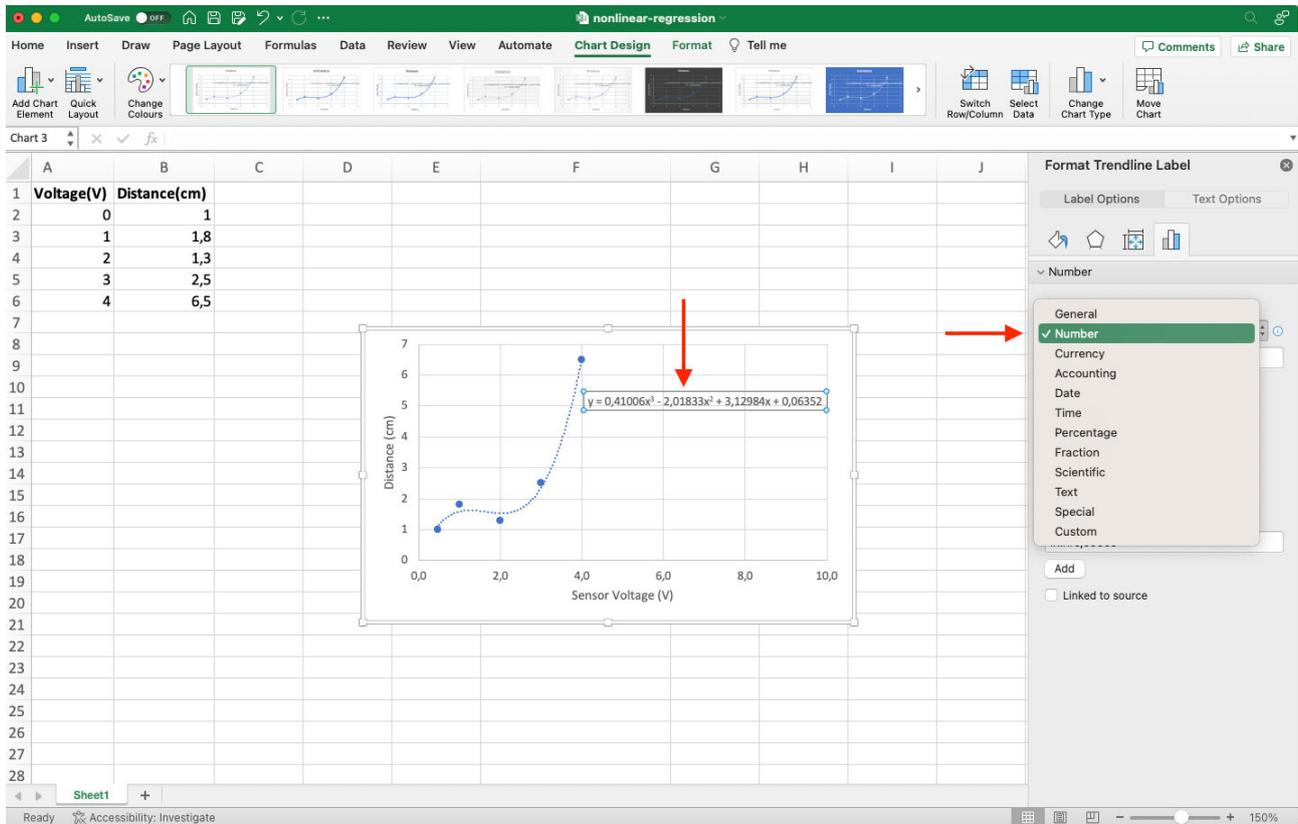

Figure 12: Select the Category Number
1. Double-click on the formula and set the *Category* to *Number*. See the Figure 12.